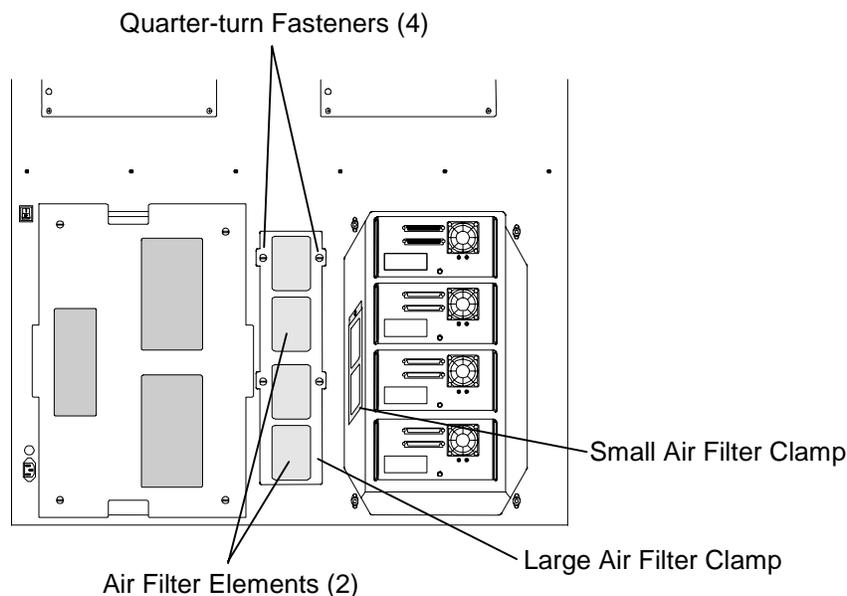

Figure 12-13 TLS-58xxx/68xxx/88xxx (Dual Bay) Rear View
1. Open the cabinet door and visually inspect the air filter element(s) at the lower right corner of the front panel (all models). For models 64xx and 84xx, also inspect the air filter elements in the lower rear panel, next to the tape drive assemblies. The access cover will need to be removed to inspect these filter elements in the rear panel of the TLS. Use a flat blade screwdriver to loosen all four of the quarter-turn fasteners and carefully remove the access cover (See Figure 5-10). When filter inspection is complete, align the covers four fasteners with the corresponding receptacles on the rear panel of the TLS, then using a flat blade screwdriver tighten the fasteners to secure the cover. For models 58xxx, 68xxx and 88xxx visually inspect the two air filter elements on the rear panel (Figure 12-13).
4. Use a flat blade screwdriver to loosen all four of the quarter-turn fasteners and carefully remove the right side access cover on the rear of the TLS (TLS-68/88xxx models only). See Figure 12-13.